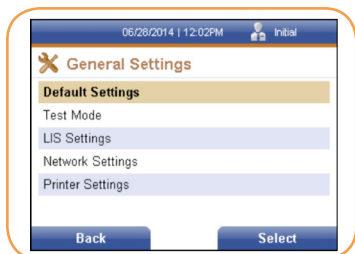

FIGURE 6
1. Using the right soft key, select General Reader Settings. The General Settings screen is displayed (Figure 6).